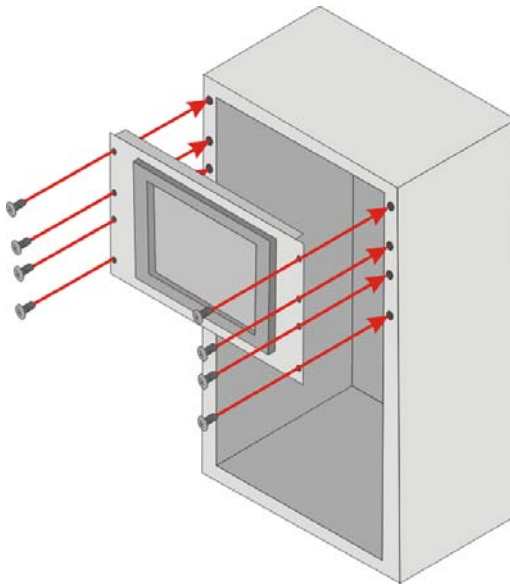

Figure 4-18: Install into a Rack/Cabinet
Step 4: Slide the LCD monitor with the attached rack/cabinet bracket into a rack or cabinet (**Figure 4-18**).
Step 5: Once the LCD monitor with the attached rack/cabinet bracket has been properly inserted into the rack or cabinet, secure the front of the rack/cabinet bracket to the front of the rack or cabinet (**Figure 4-18**).